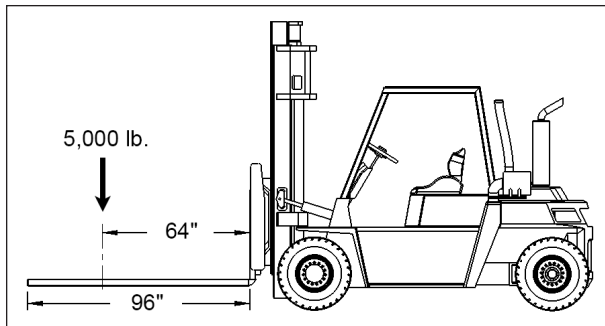

FIGURE 13: FORKLIFT MINIMAL LOAD AT 64"
- A minimal capacity of 5,000 lb. (2,268 kg) at 64" (1.6 m) with 96" (2.44 m) extension forks see Figure 13.